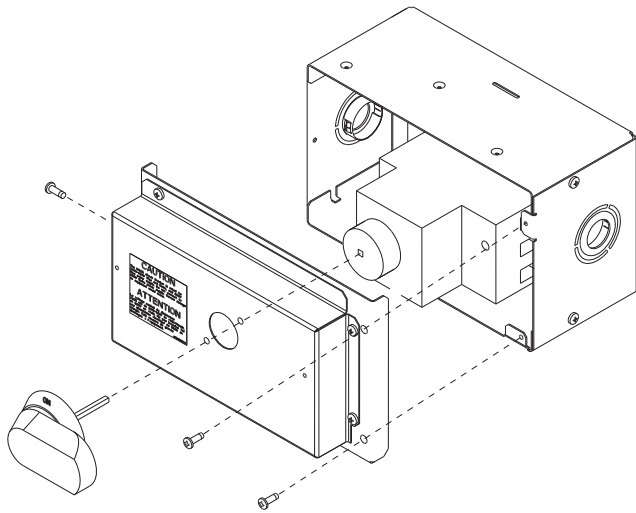

Fig. 36 — HACR Handle and Shaft Assembly
5. Insert the shaft all the way with the cross pin on the top of the shaft in the horizontal position. See Fig. 36.
9. Secure the handle to the painted cover with (2) screws and lock washers supplied.
10. Engaging the shaft into the handle socket, re-install (3) hex screws on the HACR enclosure.